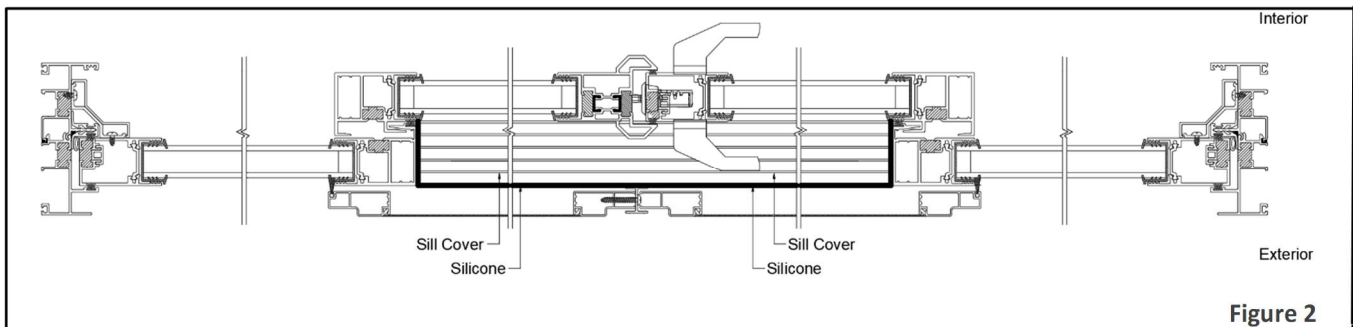

Figure 2
4.2 Follow the 2-panel door instructions and repeat the procedure at both ends (see figure 2).